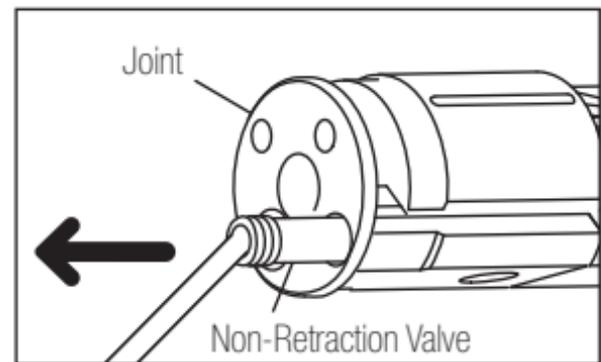

Fig. 10
- 2) Pull out the joint then remove the Non-Retraction Valve Pull out the old Non-Retraction Valve with thin stick.(Fig.10)